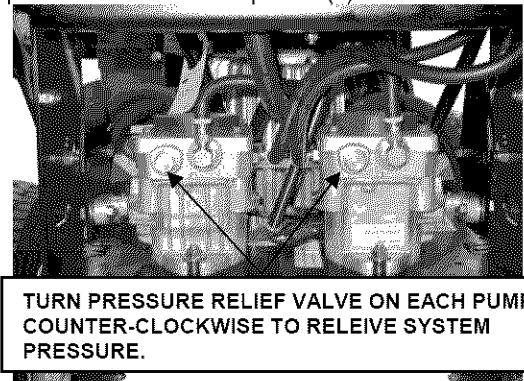

FIGURE 4.3
2. Relieve all pressure in the system and disconnect Spark Plug(s). See Figure 4.3.